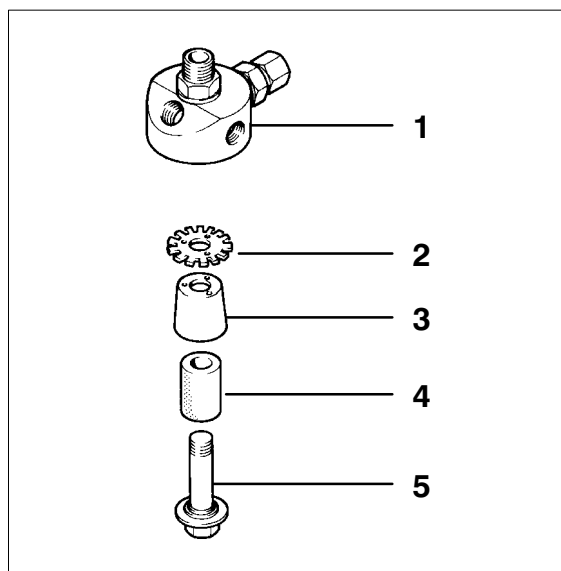

Fig. 12 Intermediate separator
Separation is achieved by means of centrifugal action provided by a vortex plate (2). A sintered metal filter (4) is provided additionally to remove dirt contamination, see Fig. 12.